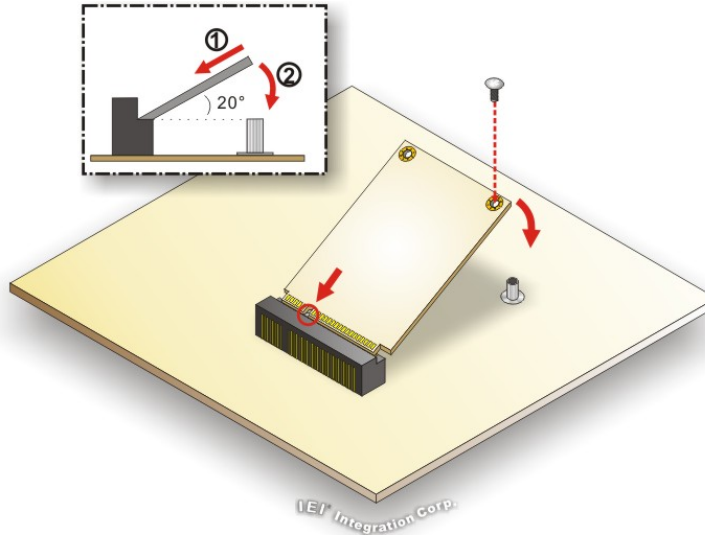

Figure 3-4: mSATA Module Installation
Step 5: Secure the mSATA module with the retention screw. Push the other end of the mSATA module down and secure the module with the previously removed retention screw (**Figure 3-4**).